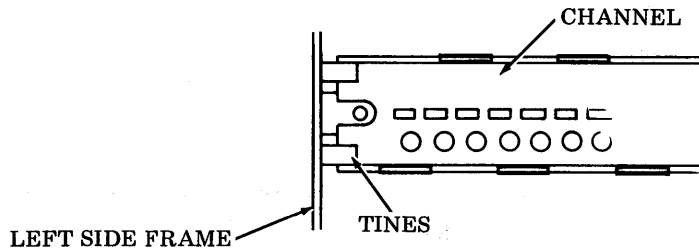

Fig. 30—Channel Engagement
- (a) Slide channel to the left and engage tines on left side frame (Fig. 30).